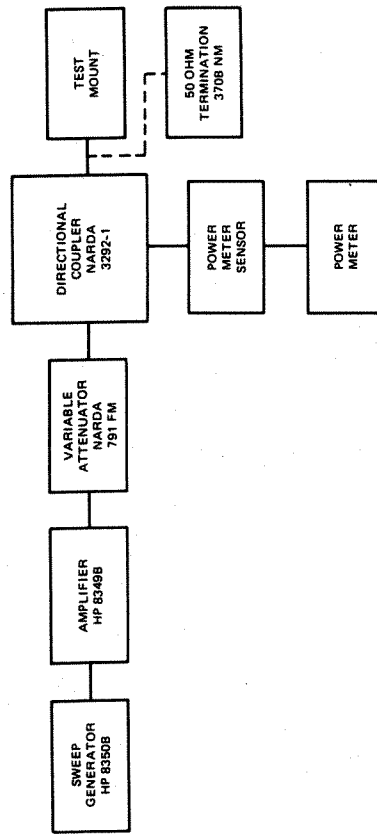

Figure 5-4. Calibration Procedure Test Setup
a. Connect test mount to test setup of Figure 5-4. Set frequency to 7 GHz, or set to specific frequency desired.
5-4.5. Linearity Measurements (see Figure 5-4).
- h. Zero test mount on most sensitive RF power range. Then connect as shown in Figure 5-4.
- a. Test setup same as Figure 5-4 (frequency 8 GHz).
1. Connect 481 to test system as shown in Figure 5-4. Set frequency to 8 GHz and power level to 1.0 mW (0 dBm). Set test fixture to 1 mW (most sensitive) range. Refer to schematic in section 7.